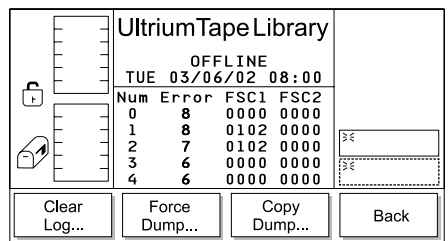

Figure 135. Drive Error Log Options Submenu
2. Press the button below the **Options** softkey. The Drive Error Log Options Submenu displays (see Figure 135).
5. To return to the Drive Error Log Options Submenu (see Figure 135), press the button below the **OK** softkey. To return to the Main Menu, press the button below the **OK** → **Back** → **Cancel** → **Back** softkeys. Continue to press the button below the **Back** softkey until the Main Menu displays.